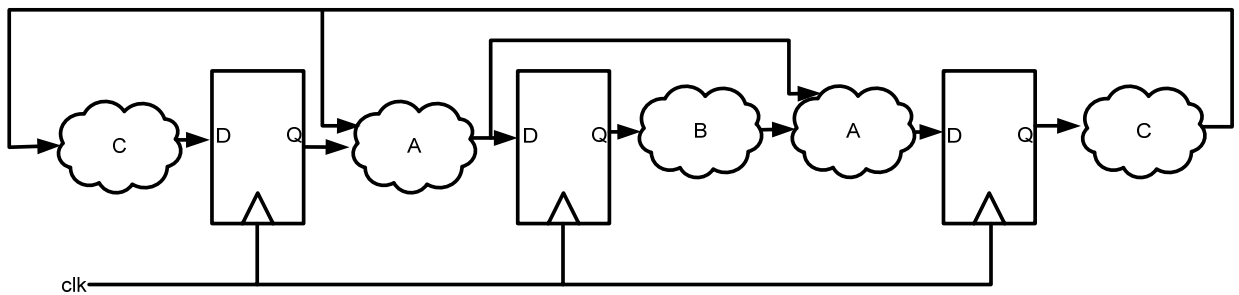

Figure 4: Sequential Circuit.
8.0 – Consider the sequential circuit shown in Figure 4, consisting of 3 edge-triggered flip-flops and with logic blocks A, B and C. Assume that  $T_{\text{setup}}=3\text{ns}$ ,  $T_{\text{hold}}=3\text{ns}$ ,  $T_{\text{CQ}}=2\text{ns}$ .